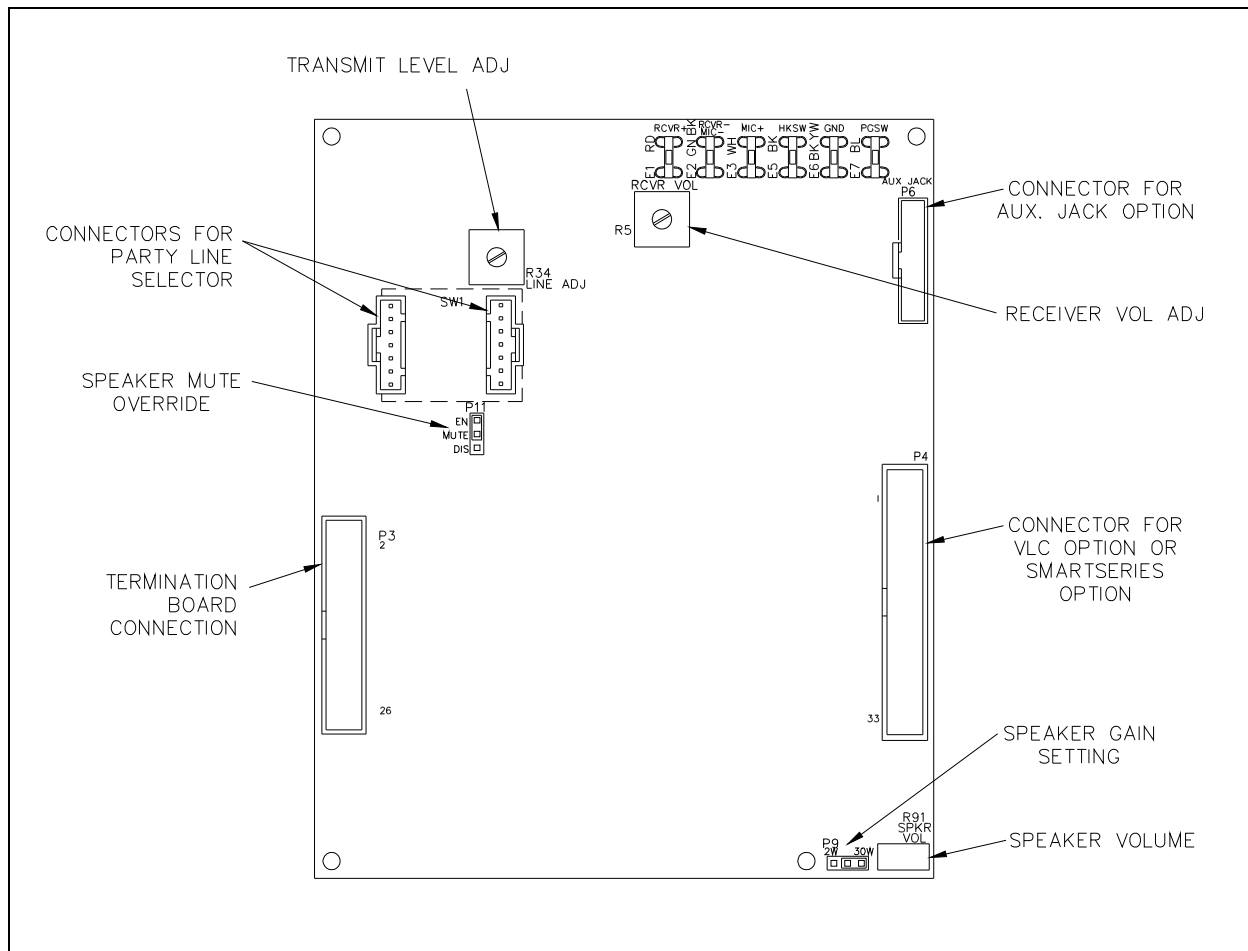

Figure 9. No. 69557 Series Main PCBA
The station can mute the speaker amplifier during page operation to eliminate feedback. Adjust jumper P11, if necessary, to mute the local speaker when paging from that station (see Figure 9)
P9 sets the maximum speaker output level (see Figure 9).
Use the transmit-level potentiometer, R34, to adjust the signal level from the handset or optional auxiliary headset microphone to the page or party lines (see Figure 9).
Use the receiver volume potentiometer, R5, to adjust the signal level to the handset receiver from the page or party lines (see Figure 9). This does not adjust the signal level to the optional auxiliary headset.
Use the speaker volume potentiometer, R91, to adjust the signal level to the speaker from the page line (see Figure 9). The default setting is 4 watts for an 8-ohm speaker and 2 watts for a 16-ohm speaker.
1. Turn the speaker volume potentiometer, R91, (on the main PCBA) fully counterclockwise (see Figure 9).
3. Adjust the speaker volume potentiometer, R91, to the desired output (see Figure 9).
2. Remove all jumpers on the main PCBA P4 connector (see Figure 9).
3. Adjust the speaker volume potentiometer, R91, to the desired output (see Figure 9)